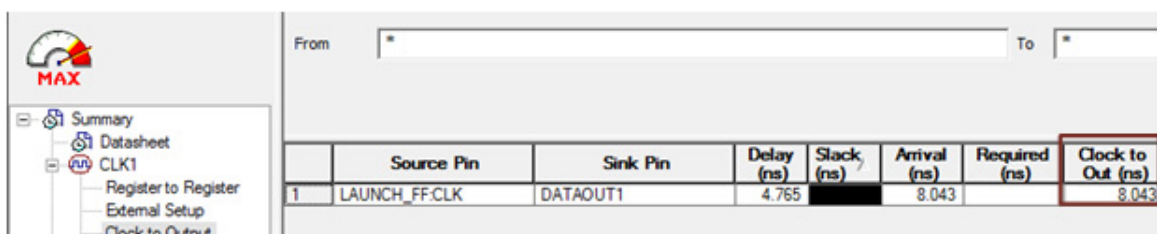

Figure 19 • SmartTime Showing Clock-to-Output Delay for Maximum Delay Analysis
2. In the Maximum Delay Analysis view, examine the **Clock to Out** path set to get $T_{max, worst}(datapath)$, as shown in Figure 19.